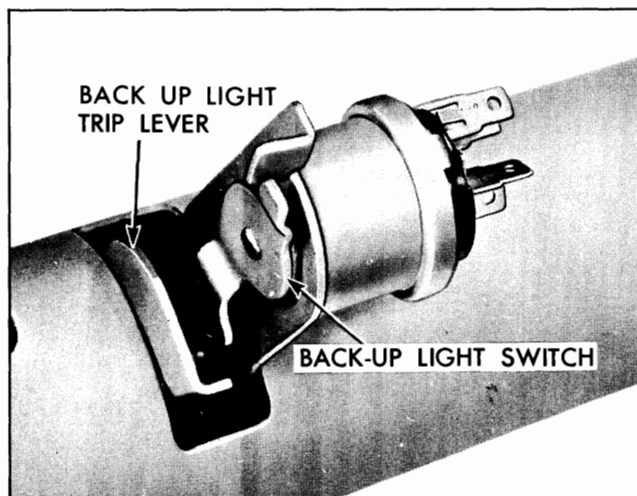

Fig. 9-14 Back-Up Light Trip Lever Location
4. Remove back-up light trip lever retaining screw and washer and remove lever through opening in steering column housing (Fig. 9-14).